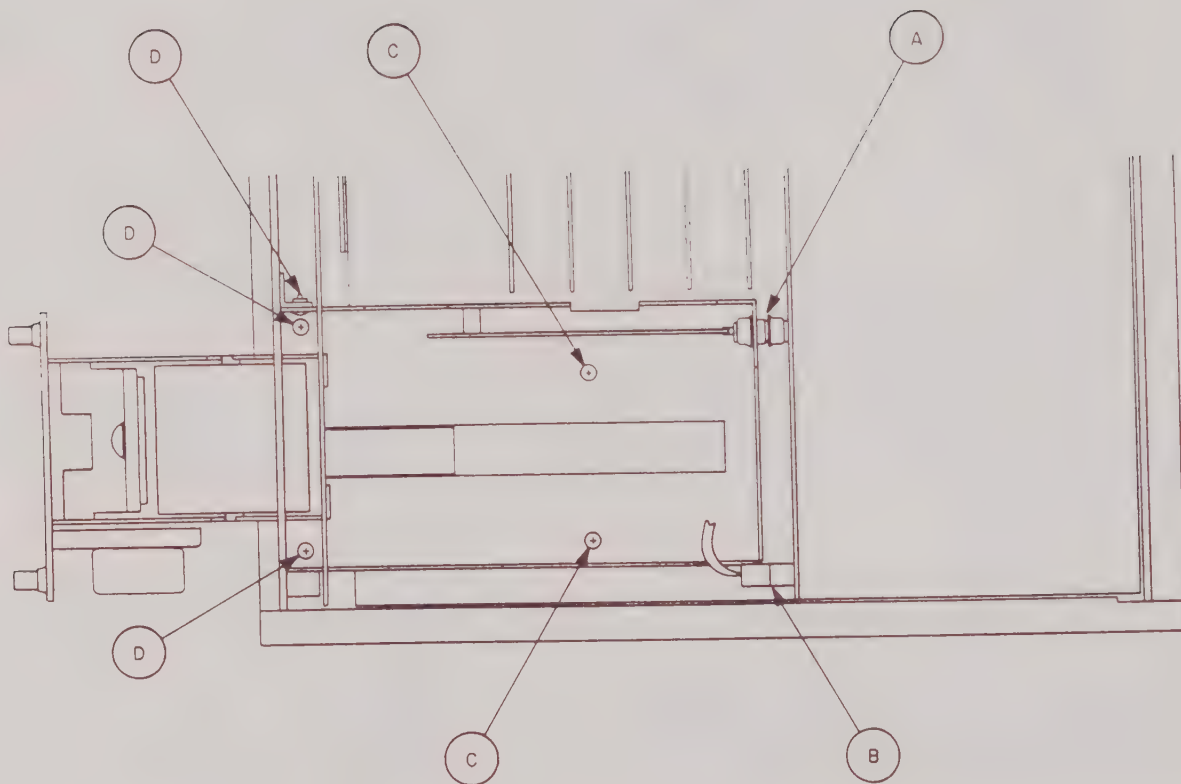

Figure 9-2
Refer to Figure 9-2. To install the DATA SENTRY 10 Thermal Printer
4. Insert the printer assembly through the front panel opening. When the printer is almost completely inserted, the "D" connector at the rear of the printer assembly will start to engage the mating "D" connector on the vertical printed circuit board (Letter A in Figure 9-2). Continue inserting the printer chassis until the "D" connector is engaged. There is a wire harness with a plug (Letter B in Figure 9-2) attached to the printer assembly; this is to be mated to the corresponding receptacle on the vertical printed circuit board. It is keyed and will only mate correctly.
5. The printer chassis has two mounting holes located in the bottom tray. Located on either side of the slot (Letters C in Figure 9-2), they line up with two corresponding threaded
6. At the front of the printer chassis there are three mounting holes. They are to line up with three corresponding threaded holes in the brackets mounted against the front panel of the DATA SENTRY 10 (Letters D in Figure 9-2). Install the remaining three screws and lock washers. Do not tighten at this time. The printer panel/mechanism will have to slide forward to provide access to these three mounting screws.
Refer to Figure 9-2. To remove the DATA SENTRY 10 Thermal Printer Option:
3. Disconnect the printer wire harness plug (at the vertical printed circuit board (Letter B in Figure 9-2)).
4. Remove two screws and lock washers located in the bottom tray of the chassis found on either side of the slot (Letters C in Figure 9-2).
5. Disengage the two locking pawls located on the front of the printer panel and slide outward to the "paper load" position. Remove the three screws and lock washers at the front of the printer chassis which thread into the brackets mounted against the DATA SENTRY 10 panel (Letters D in Figure 9-2).